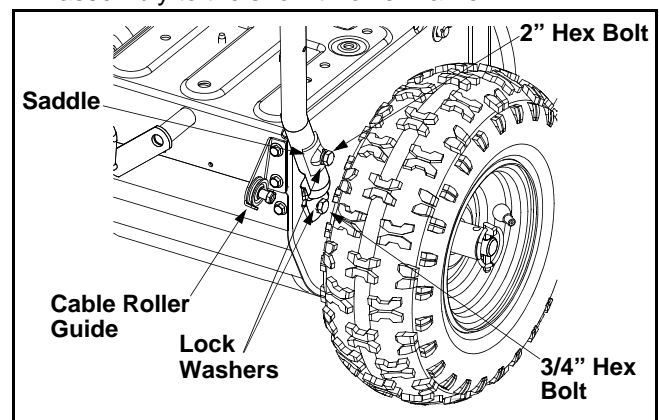

Figure 9
- Make certain all cables are in the grooves of the cable roller guides located in the lower rear of the unit, one on each side. See Figure 9.
- Raise the handle assembly into the upright position and align the top holes in the handle with the top holes in the snow thrower frame. Attach using 2" long hex bolts, lock washers and saddles. (Curve in saddle must match the curve in the handle.) See Figure 9.
- Make certain all cables are in the grooves of the cable roller guides in the lower rear of the unit, one on each side. Refer to Figure 9.